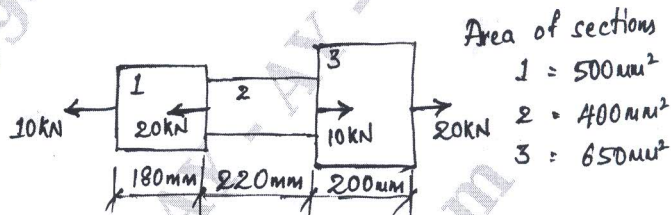

Fig Q2(b)
b. Different portions of a stepped bar are subjected to the force as shown in Fig Q2(b). Determine: i) Stress induced in each portion ii) Net deformation in the bar.